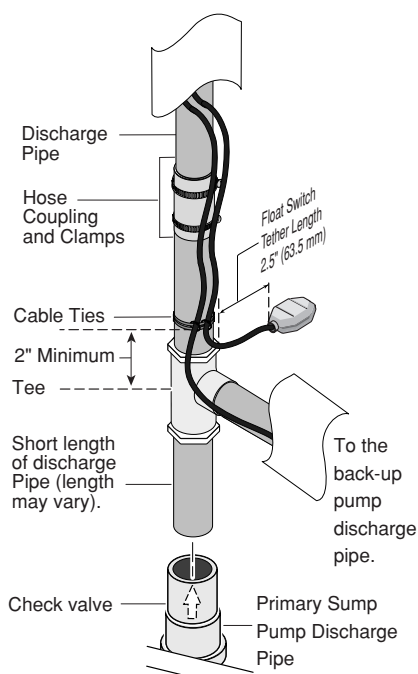

Figure 6 - Back-up pump float switch tether length and discharge pipe
10. Install a short length of pipe into the top of the check valve in the primary pump discharge. See Figure 6.
14. Mount the float switch assembly (Key No. 7) loosely to the discharge pipe with the cable ties (Key Nos. 7A & 7B). See Figure 6. Approximately 2.5" (63.5 mm) of cord length should be left between the float and the clamp. Do not tighten the cable ties. Adjustments may be needed later.
- Mount the back-up pump float switch assembly (Key No. 7) loosely to the discharge pipe with the cable ties (Key Nos. 7A & 7B). See Figure 6, on Page 6. Approximately 2.5" (63.5 mm) of cord length should be left between the float and the clamp. Do not tighten the cable ties. Adjustments may be needed later.